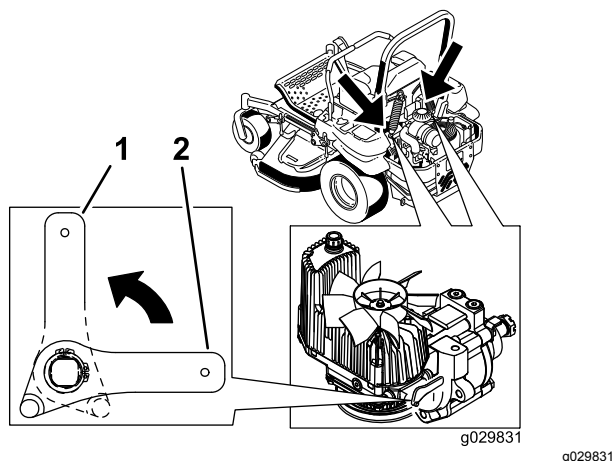

Figure 37
2. Rotate the release-valve levers vertically to push the machine. This allows hydraulic fluid to bypass the pump, enabling the wheels to turn (Figure 37).
4. Rotate the release valve levers horizontally to run the machine (Figure 37).